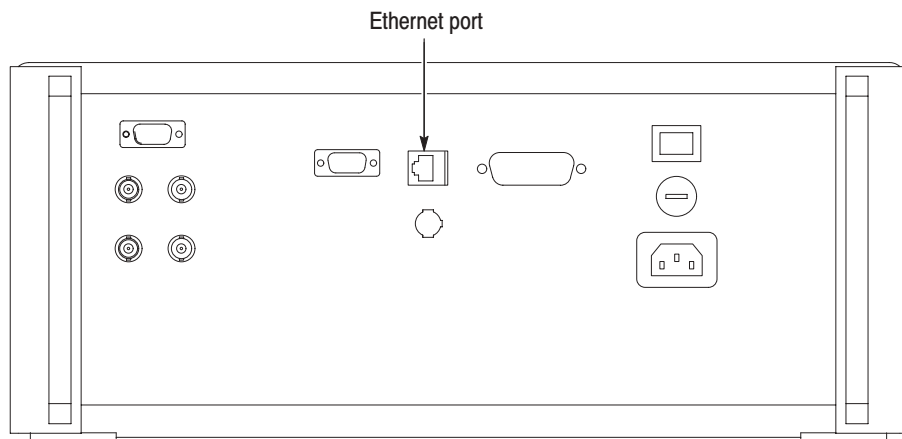

Figure 1–9: Ethernet port location
The waveform generator has an Ethernet (10Base-T/100Base-Tx) port on the rear panel as shown in Figures 1–9.
4. Move the cursor to the **Network IP Address** field using the up/down (\uparrow/\downarrow) arrow buttons, then press the **Edit...** button and set the address using the keypad. See Figure 1–10 on page 1–10.